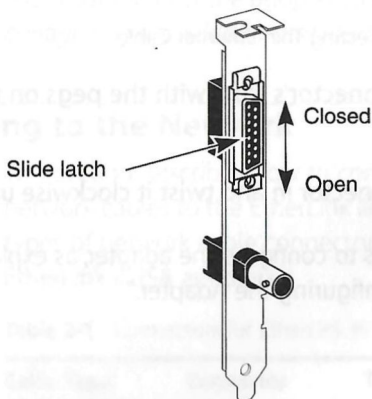

Figure 2-2 Slide Latch
- 1 **Locate the adapter's AUI connector and move the slide latch to the open position, as shown in Figure 2-2.**